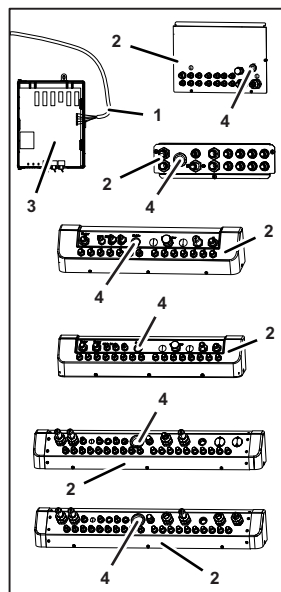

Figure 24
6. Route the electrical cable (Figure 24/1) through the relevant cable port (Figure 24/4) on the relevant connecting plate (Figure 24/2), through the unit to control system 1 (Figure 24/3).
7. Connect the electrical cable (Figure 24/1) to control system 1 (Figure 24/3).